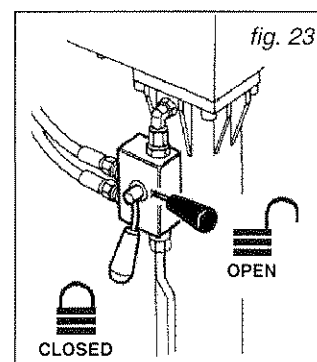

fig. 23
- Open the taps (when fitted) on the valves placed on the outrigger rams. fig. 23